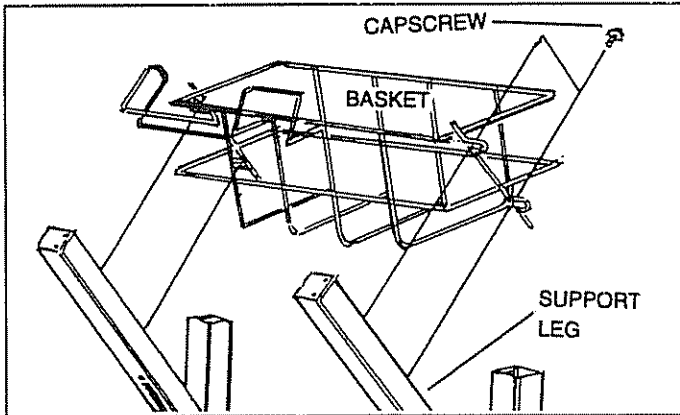

FIG. 4
- Attach wire basket to bent arms of support legs with #10 self-drilling screws (Fig. 4) using 5/16" (8mm) wrench. The gun holder should be positioned to the left. Be sure loop of support is pointing upward.